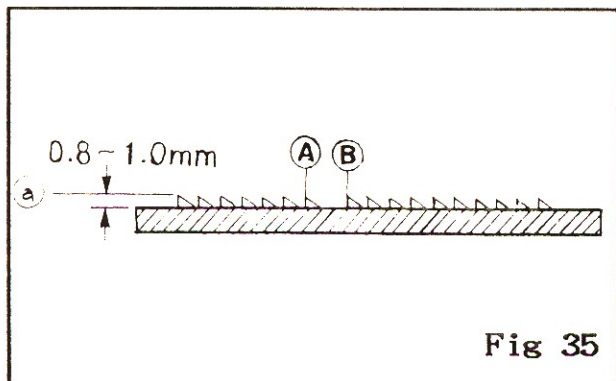

Fig 35
1. The height of Main Feed dog is 0.8 - 1.2mm when it is in the highest position. (Fig 35)